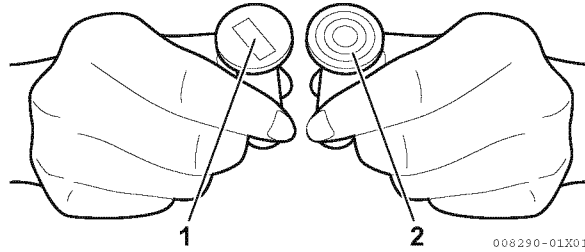

Fig.11-8
1. Inspect the tappet contact surfaces for abnormal wear (1, Fig.11-8). Normal wear will be even as shown in (2, Fig.11-8). Slight surface defects can be corrected using an oilstone.